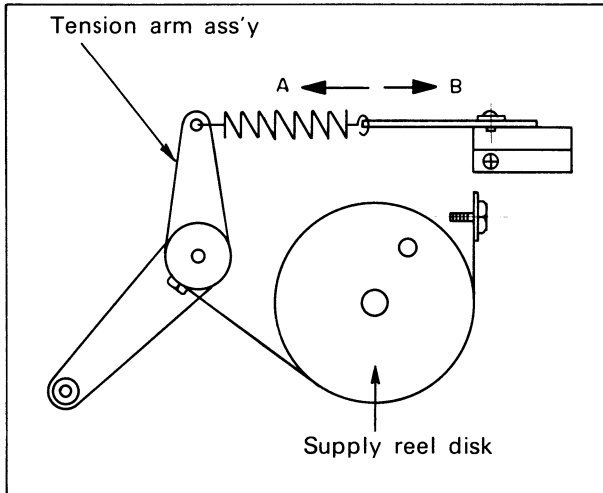

Fig. 6-13.
- If backtension is incorrect, it can be adjusted by moving the bracket to which the spring is attached. The bracket should be moved in direction A to decrease back tension and in direction B to increase it. See Fig. 6-13. This is a very sensitive adjustment so be very careful.